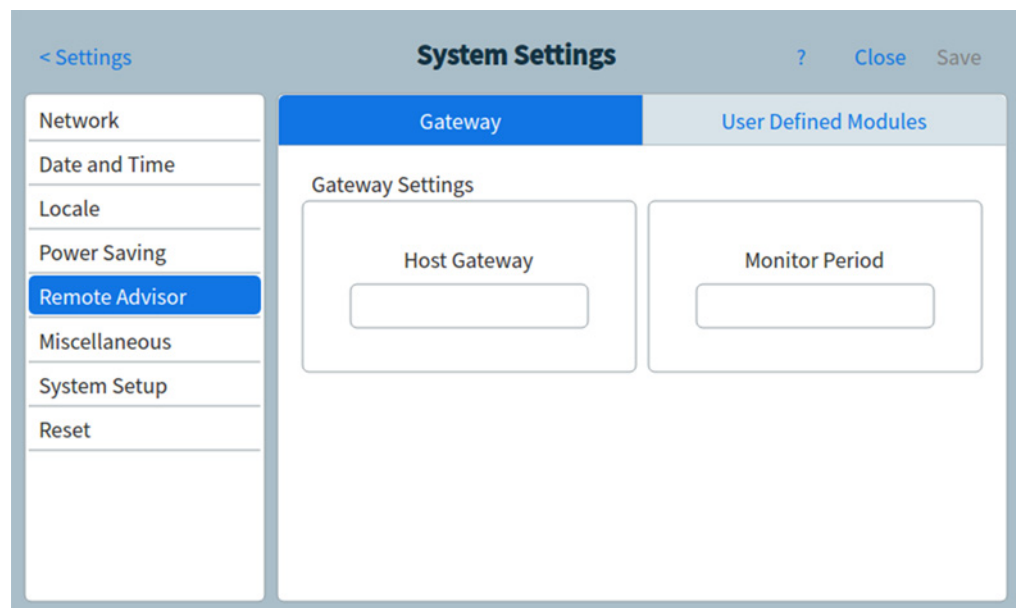

Figure 44 Remote Advisor page
- 1 From the System Settings page, press the **Remote Advisor** page selection button. The Remote Advisor page appears. See Figure 44.